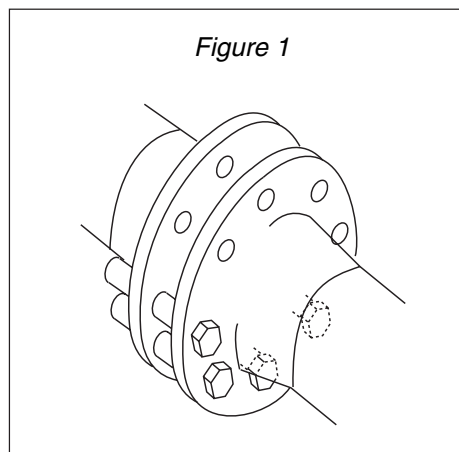

Figure 1
- a. Loosely install the lower flange bolts to form a cradle between the flanges. See Figure 1.